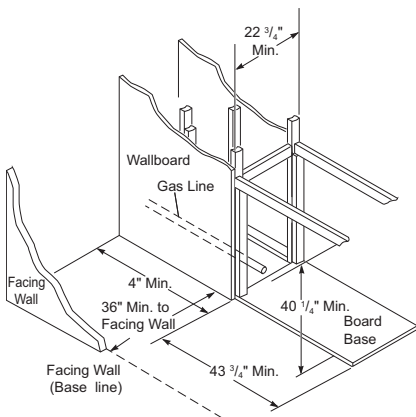

Figure 8 - Framing for Built-In Firebox Installation
1. Frame in rough opening. The firebox framing should be constructed of 2 x 4 lumber or heavier. Construct framing using dimensions shown in Figure 8 and 9, page 10. It is recommended that the framing be constructed first and the unit be placed in position. After sliding the unit into place, the flanges may be nailed to the framing before applying the wallboard to the exterior framing.